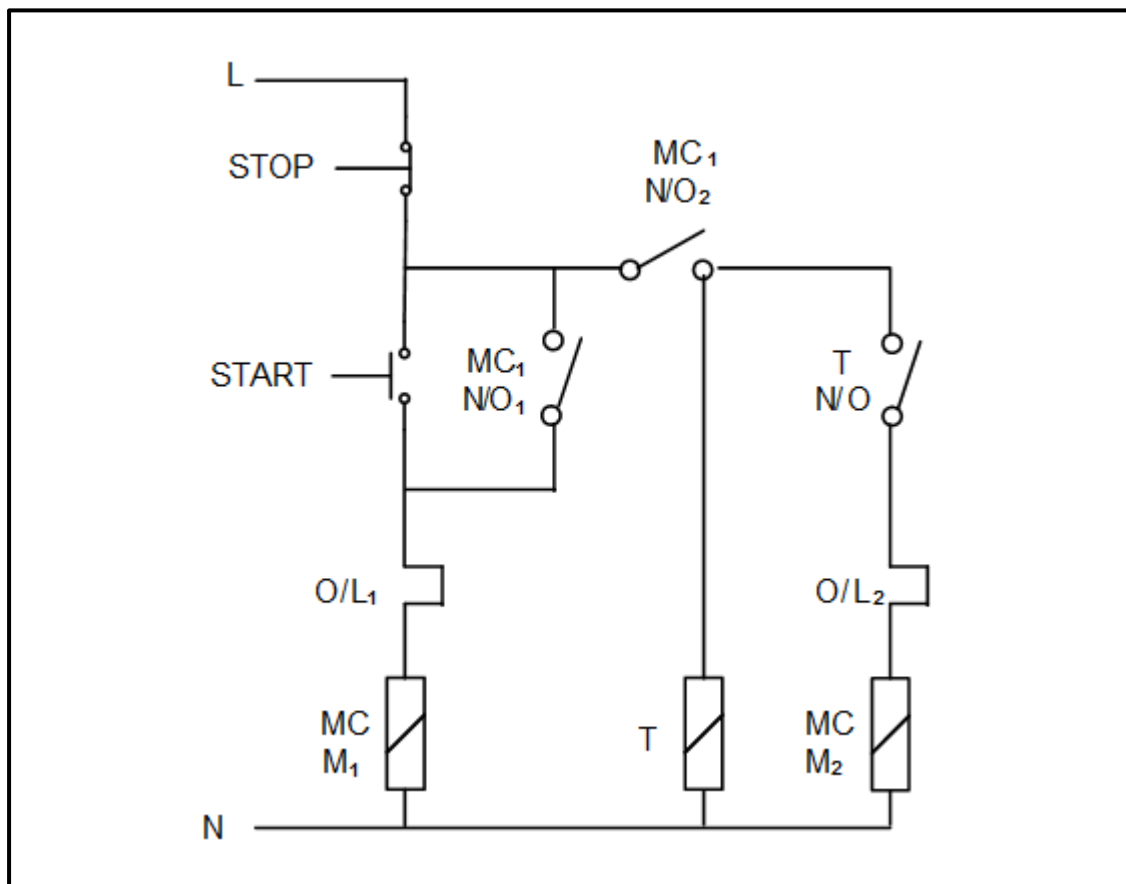

FIGURE 4.7: CONTROL CIRCUIT OF AN AUTOMATIC SEQUENCE STARTER
4.7 FIGURE 4.7 below represents the control circuit of an automatic sequence starter.